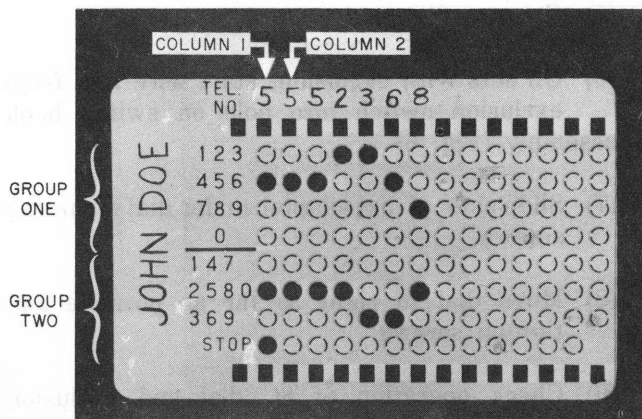

Fig. 8—Card Coded for 7-Digit Telephone Number
- (1) Write name and telephone number in spaces provided as shown in Fig. 8 and 9.
- (2) Convert exchange letters to numbers. For example: use 2 for A, B, or C; 7 for P, R, or S; etc.
**Note:** There are two groups of numbers 1 through 0 on the card (Fig. 8).
- (3) In Fig. 8 the first digit of the telephone number is 5. In column 1, locate digit 5 in the first group of numbers and punch out the perforation with a pencil or ballpoint pen. In the same column, locate digit 5 in the second group of numbers and again punch out the perforation.
- (4) Repeat this procedure for each digit in the telephone number. The digit 0 must be punched out in each group of numbers just as any other digit.